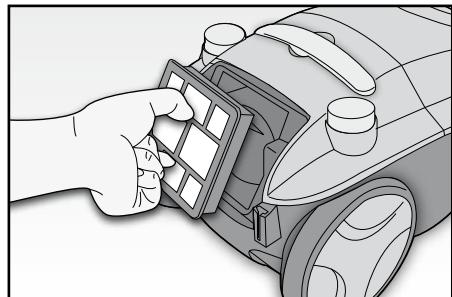

Fig. 11
- Lift the filter out from its compartment and shake it vigorously to clean it (FIG. 11). If the filter is extremely soiled, wash it with lukewarm soapy water and leave it to dry. NEVER use artificial means to dry the filter. To replace the filter, contact an Assistance Centre.